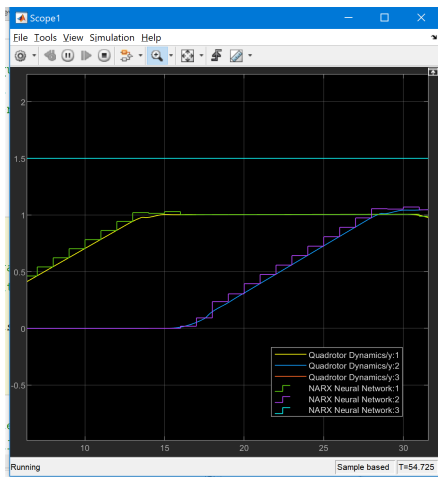

Fig. 9. Example scope plot.
- Run the model; you can check the output in the scope; an example scope is shown in Fig. 9: